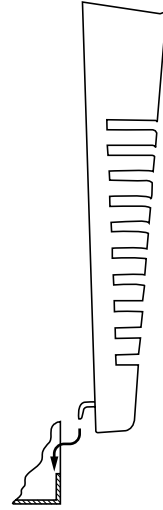

Figure 12
1. With a standard blade screwdriver (or 1/4" nutdriver), remove the screw needed to attach the grille (see Figure 12).